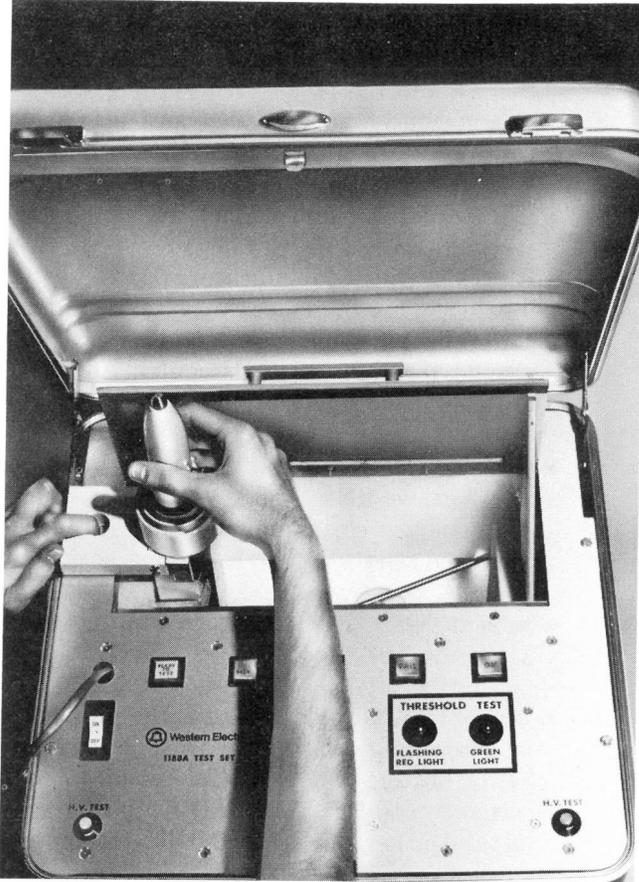

Fig. 4—188A Inserted in Socket
- Insert 1188A test set, handle first, into probe socket so the entire handle, up to the flash guard, is inside socket (Fig. 4).